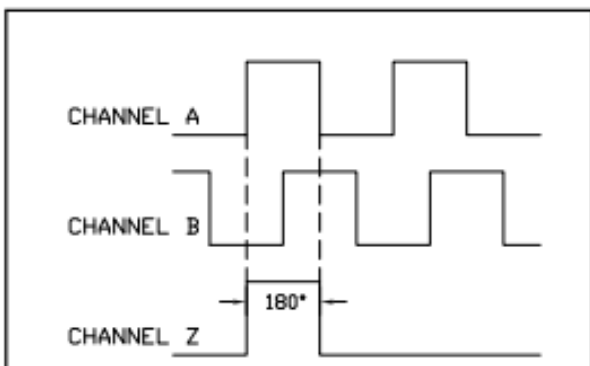

Figure 4. Quadrature encoder with an index
- Quadrature with an index channel (Figure 4)
The index or “Z” channel of an encoder happens once per revolution of the encoder (see Figure 4). The index is also sometimes called a reference, marker, or homing pulse. One common function of the index is as a home position locator. Every time the index is triggered, the receiving device knows where the encoder is within its rotation. The index is normally 180° electrical and gated to either channel A or channel B. In addition to standard gating, Accu-Coder™ encoders have other gating options that a customer can order based on the customer’s special needs.